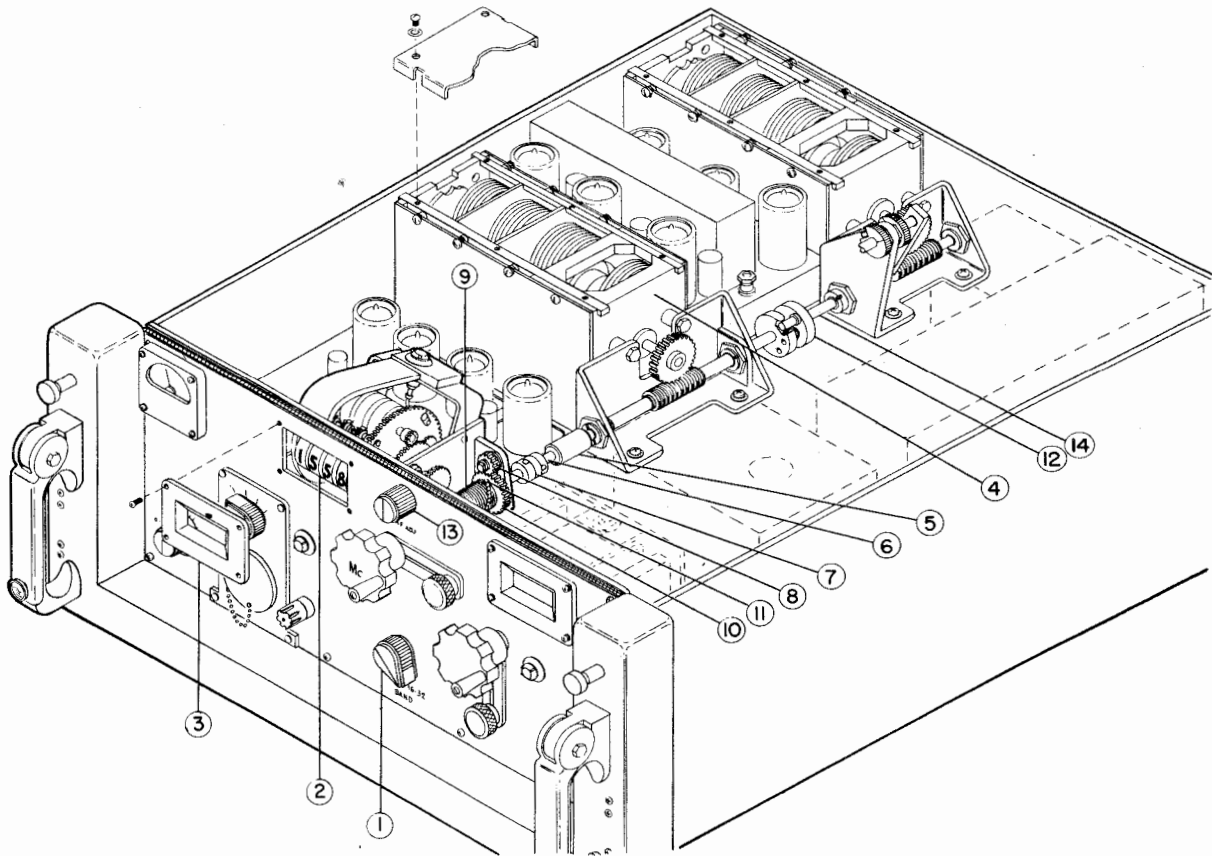

Figure 6-7. Converter Drawer, Main Tuning Mechanism
(1) Ease the blister panel into place so that it is close enough to the rear cables to permit reconnecting them.
(2) Connect signal transfer and power cables between demodulator and converter cabinets.
(3) Move the blister panel back, align it with fasteners and secure it in place.
(4) Reinstall converter drawer; close and lock it.
(13) ALIGNMENT AND GANGING OF CAPACITORS. (See figure 6-7).—The following instructions cover alignment of the harmonic-amplifier capacitor with the MEGACYCLE counter and ganging the capacitors of the preselector and the harmonic amplifier. Numerals in parentheses identify items shown in figure 6-7.